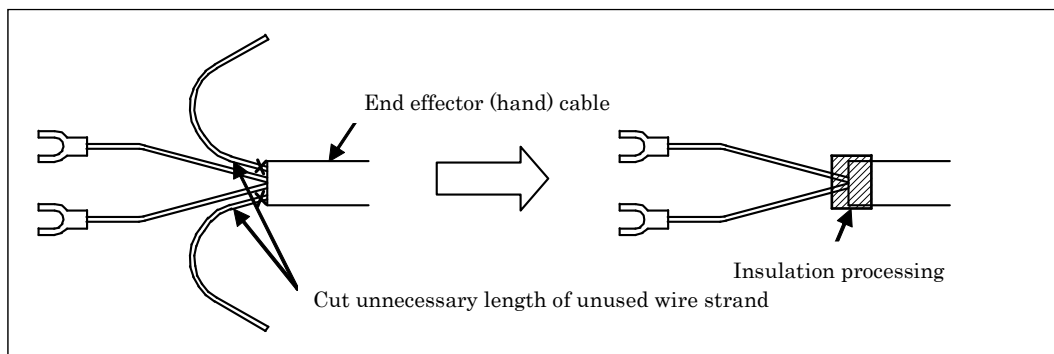

Fig. 5 (a) Treatment method of end effector (hand) cable
- Cut and discard any unnecessary length of wire strand of the end effector (hand) cable. Insulate the cable with seal tape. (See Fig. 5 (a))